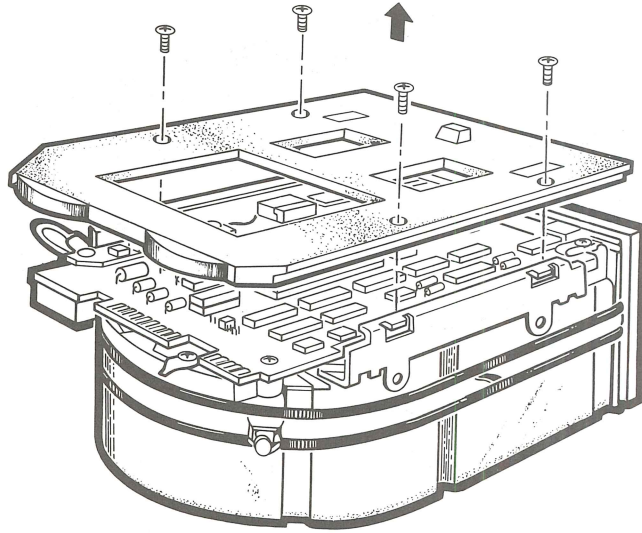

Figure 4-6 Remove the Slide Mounting Plate
1. Place the drive upside down on a flat work surface and remove the four Phillips screws retaining the slide plate and ground clip. Set the slide plate aside (see Figure 4-6).